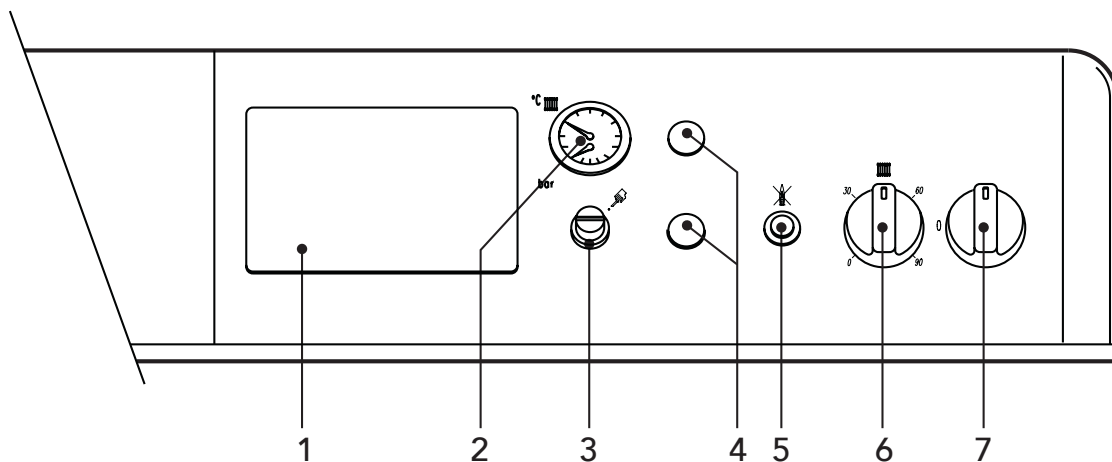

fig. 1
- Turn the boiler switch "7" onto 1 (Fig. 1).
- If the boiler is equipped with an electronic thermostatic controller mounted at position 1 of Fig. 1, the user must also take into account the manufacturer's instructions.
Turn knob 6 (Fig. 1) clockwise to increase the heating water temperature, turn anticlockwise to decrease it. The temperature can be varied from a minimum of 30°C to a maximum of 90°C. However, it is advisable not to operate the boiler below 45°C.
Using the room thermostat, set the temperature desired in the rooms. Controlled by the room thermostat, the boiler lights and delivers water to the system at the temperature set by boiler adjustment thermostat 6 (Fig. 1). The generator turns off when the desired temperature in the rooms is reached.
The filling pressure with system cold, read on boiler hydrometer (detail 2 in Fig.1), must be about 1.0 bar. If, during operation, the system pressure falls (caused by the evaporation of gas dissolved in the water) to values below the minimum described above, the user must bring it back to the initial value by operating the filling cock. At the end of the operation always close the filling cock.